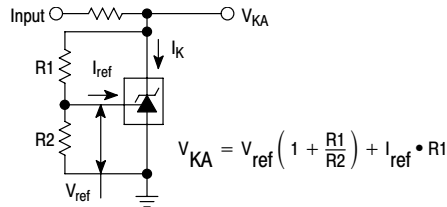

Figure 2. Test Circuit for $V_{KA} > V_{ref}$
| Ratio of Change in Reference Input Voltage to Change in Cathode to Anode Voltage I _K = 10 mA (Figure 2), ΔV _{KA} = 10 V to V _{ref} ΔV _{KA} = 36 V to 10 V | $\frac{\Delta V_{ref}}{\Delta V_{KA}}$ | – – | –1.4 –1.0 | –2.7 –2.0 | – – | –1.4 –1.0 | –2.7 –2.0 | mV/V |
| Reference Input Current (Figure 2) I _K = 10 mA, R1 = 10 k, R2 = ∞ T _A = 25°C T _A = T _{low} to T _{high} (Note 1) | I _{ref} | – – | 1.8 – | 4.0 6.5 | – – | 1.8 – | 4.0 5.2 | μA |
| Reference Input Current Deviation Over Temperature Range (Figure 2, Note 1, 4) I _K = 10 mA, R1 = 10 k, R2 = ∞ | ΔI _{ref} | – | 0.8 | 2.5 | – | 0.4 | 1.2 | μA |
- The dynamic impedance Z_{KA} is defined as: $|Z_{KA}| = \frac{\Delta V_{KA}}{\Delta I_K}$. When the device is programmed with two external resistors, R1 and R2, (refer to Figure 2) the total dynamic impedance of the circuit is defined as: $|Z_{KA}'| \approx |Z_{KA}| \left(1 + \frac{R1}{R2} \right)$
| Ratio of Change in Reference Input Voltage to Change in Cathode to Anode Voltage I _K = 10 mA (Figure 2), ΔV _{KA} = 10 V to V _{ref} ΔV _{KA} = 36 V to 10 V | $\frac{\Delta V_{ref}}{\Delta V_{KA}}$ | – | –1.4 –1.0 | –2.7 –2.0 | – | –1.4 –1.0 | –2.7 –2.0 | – | –1.4 –1.0 | –2.7 –2.0 | mV/V |
| Reference Input Current (Figure 2) I _K = 10 mA, R1 = 10 k, R2 = ∞ T _A = 25°C T _A = T _{low} to T _{high} (Note 4) | I _{ref} | – | 1.8 – | 4.0 6.5 | – | 1.8 – | 4.0 5.2 | – | 1.1 – | 2.0 4.0 | μA |
| Reference Input Current Deviation Over Temperature Range (Figure 2, Note 4) I _K = 10 mA, R1 = 10 k, R2 = ∞ | ΔI _{ref} | – | 0.8 | 2.5 | – | 0.4 | 1.2 | – | 0.8 | 2.5 | μA |
6. The dynamic impedance Z_{KA} is defined as $|Z_{KA}| = \frac{\Delta V_{KA}}{\Delta I_K}$. When the device is programmed with two external resistors, R1 and R2, (refer to Figure 2) the total dynamic impedance of the circuit is defined as: $|Z_{KA}'| \approx |Z_{KA}| \left(1 + \frac{R1}{R2} \right)$